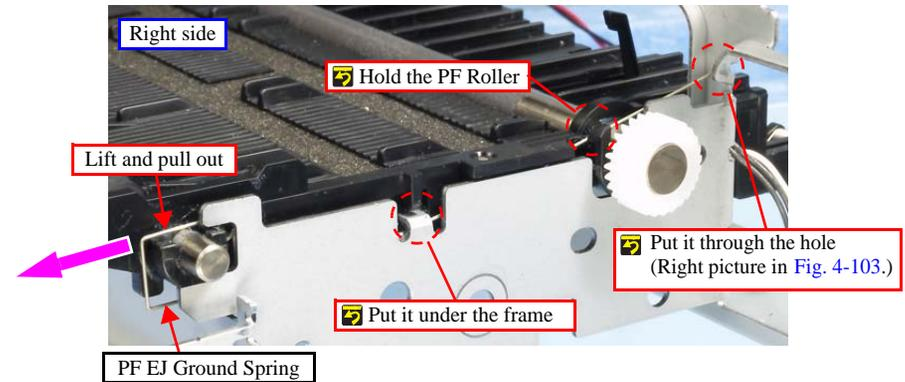

Figure 4-104. Removing the Front Paper Guide Assy (2)
- See Fig. 4-104 and install the PF EJ Ground Spring.